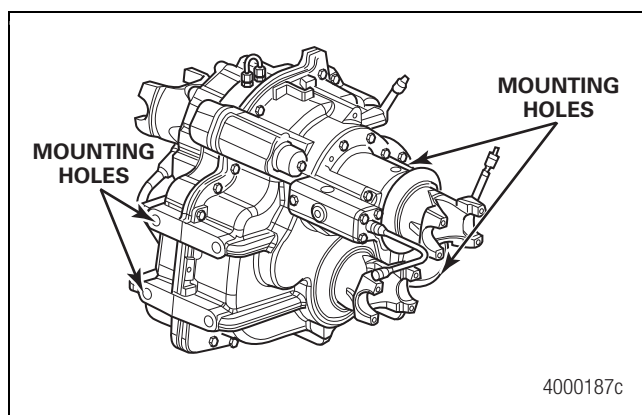
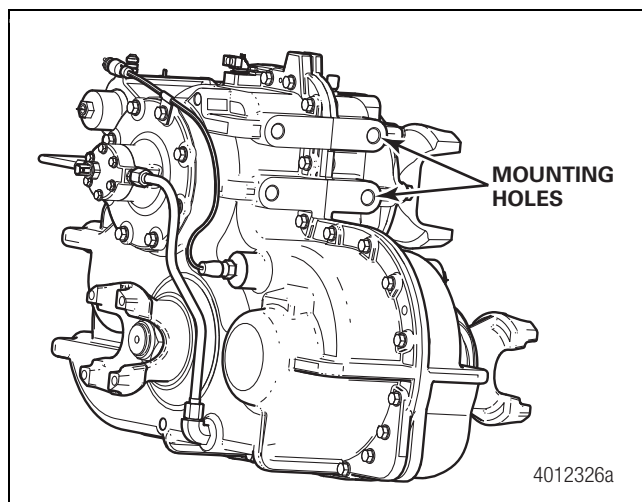

Figure 3.4
Figure 3.5
14. Construct suitable mounting brackets or similar fixtures. Attach the brackets to the front half of the transfer case by installing bolts through the mounting holes in the transfer case. Figure 3.4 and Figure 3.5.
16. Attach a suitable lifting device to the eye-bolts to lift the transfer case. Use suitable brackets to mount the case in the repair stand. Figure 3.4 and Figure 3.5.